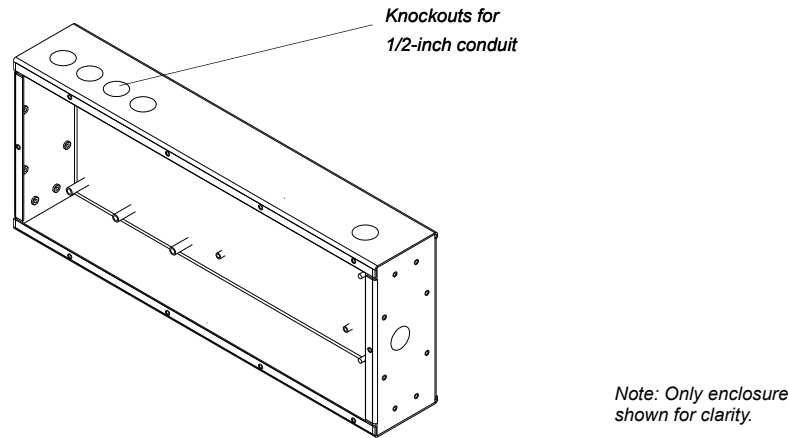

Figure 6: Emergency DMX Bypass Switch Enclosure Knockouts
Step 7. As required, remove knockouts as shown in **Figure 6**.